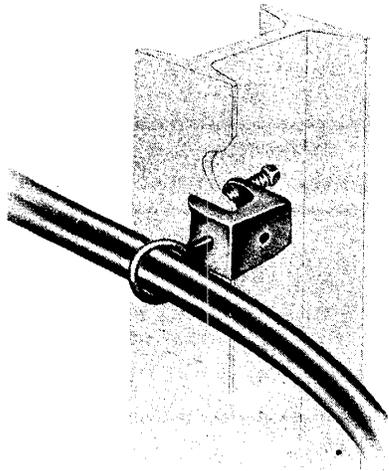

Fig. 12—B Insulator Support
**B INSULATOR SUPPORT (Fig. 12)**